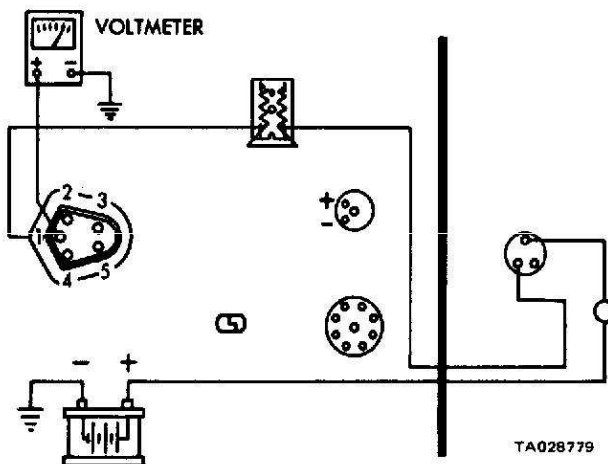

Figure 2-27. Testing Terminal Number One.
(4) Turn the ignition switch to the ON position. With the meter still set to read battery voltage, check for voltage between wiring-harness connector terminal one and ground (figure 2-27).